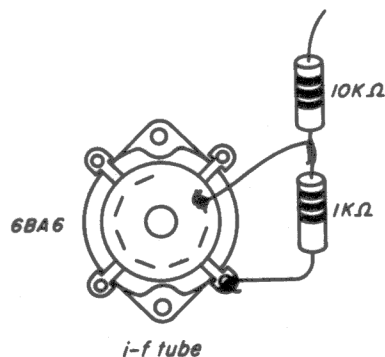

Fig. 29-7
Step 1. Prepare a voltage divider from a 1,000-ohm and 10 k-ohm resistor, as shown in Fig. 29-7.